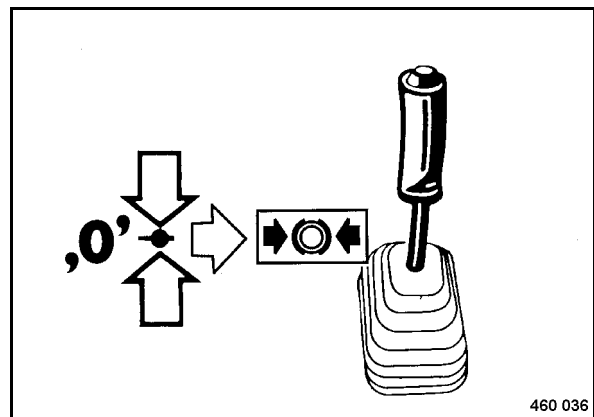

Fig. 38
- Push the travel lever (Fig. 38) to the right into parking brake position.